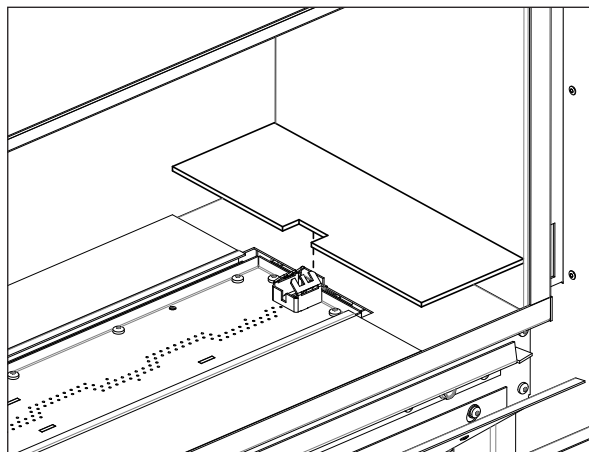

Figure 73: Burner Bezel Placement Around Pilot
3. Ensure that the short, notched bezel is placed around the pilot assembly as shown in Figure 73.